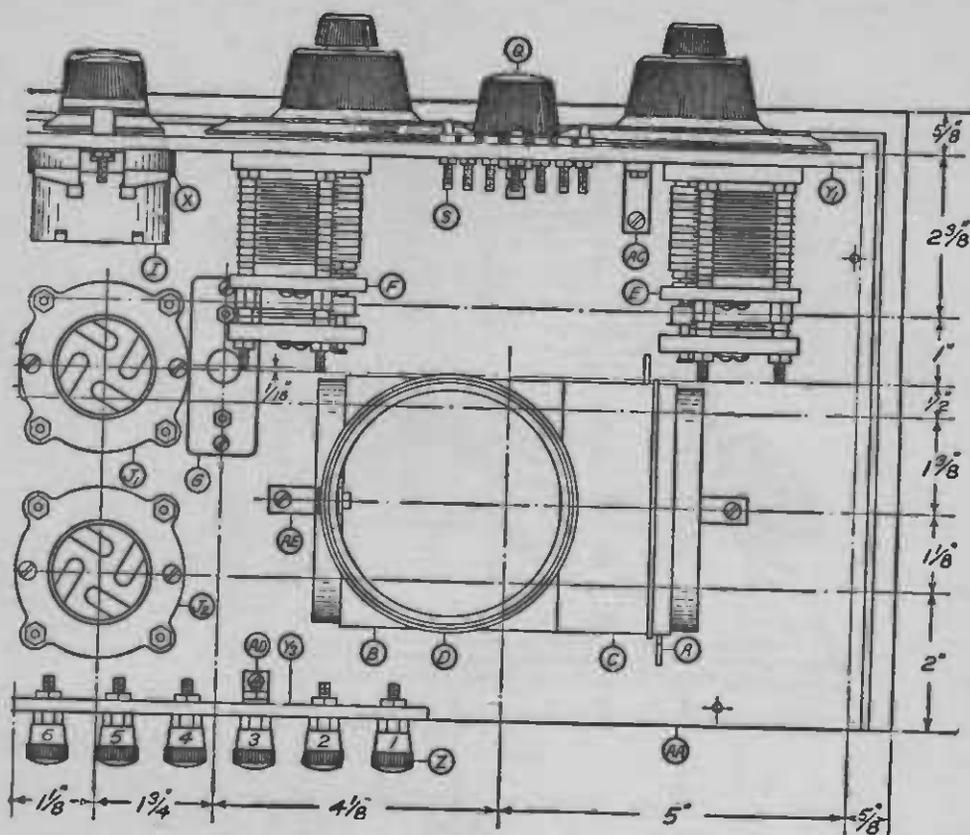

Figure 1. Be sure to include the rheostats in the correct side of the filament circuits. This is important!
**FIGURE 1:** This diagram shows how to hook up the various instruments and parts in the circuit. It will be noticed that all the parts are given a designating letter
The wiring diagram is shown in Figure 1.
Now wire up the two condensers E and F as shown in Figure 1, with the rotor and stator plates connected as shown in the diagram. Then wire up the grid circuit of the detector tube which includes the condenser G and the grid-leak I.
licated in the wiring diagram and shown in Figures 1, 2, 4, and 6.
Now connect the plate circuit of the third tube which includes the second jack M2 and the proper connections on the input transformer O which are printed on the bottom of the transformer. The eleventh post is for the negative terminal of the extra 45-volt "B" battery used on the two last stages of amplification. This post should be connected by a wire to the eighth post. The twelfth post is the positive terminal of the extra forty-five volts of "B" battery. This should be connected to the plate circuit of the three last tubes as shown in the wiring diagram in Figure 1.
FIGURE 1: This diagram gives the proper connections for all the instruments and parts that go into the amplifier cabinet which may be placed alongside the right-hand side of the set. The power amplifier is plugged into the second stage of amplification by means of the plug P1.
The wiring diagram for the complete amplifier is shown in Figure 1. The same "A" battery should be used as for the receiver but a separate "B" battery would be preferable for the amplifier. Two UV-201-a tubes are recommended. Be sure to use the correct value of "C" battery as indicated on the diagram.